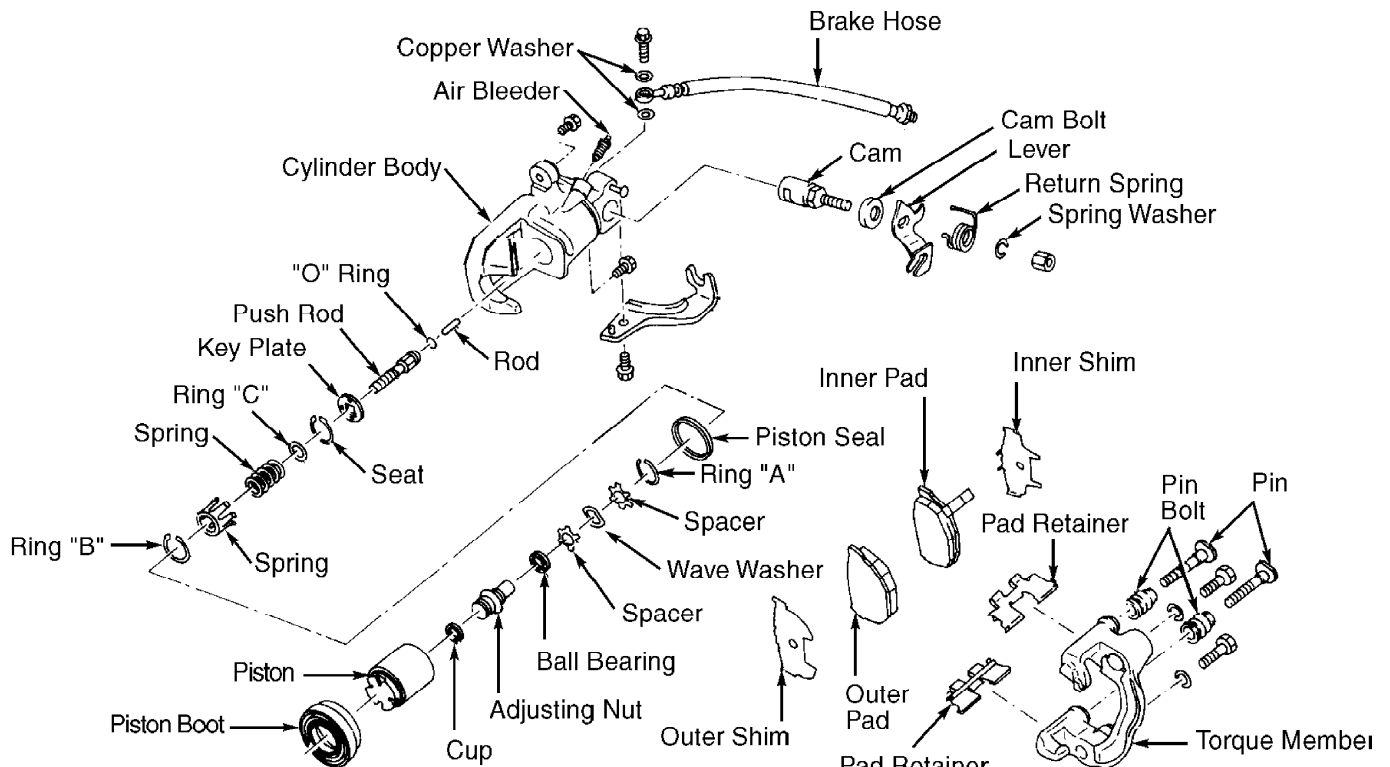

Fig. 11: Exploded View of Rear Disc Brake Caliper (240SX & 300ZX)
Remove rear wheel assembly. Disconnect hydraulic line from caliper and plug openings. Disconnect parking brake cable. Remove 2 caliper mount bolts and remove caliper assembly. See Fig. 11.
adjuster nut. Remove cup from adjuster nut. To disassemble caliper body, remove snap ring. Remove spring cover, spring and seat. See Fig. 11. Remove piston seal.
2) Install cup with lip facing center of adjust nut. Fit rod to push rod and push rod into square hole in key plate. Fit convex portion of key plate with concave portion of caliper. Install first snap ring. Install seat, spring, spring cover and second snap ring with press and drift. To complete reassembly, reverse disassembly procedure. See Fig. 11.